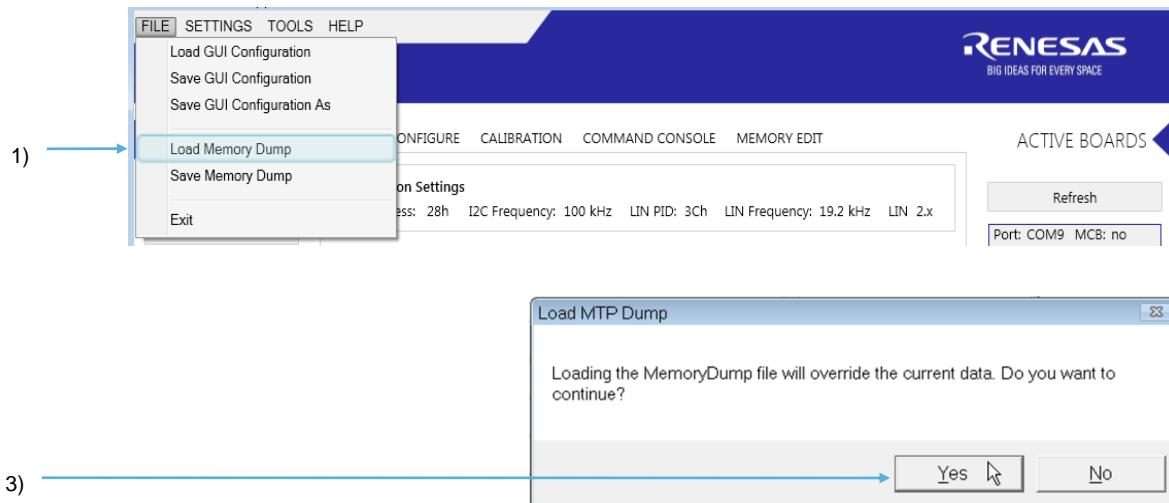

Figure 17. Load the RAM Shadow Data into GUI
1. Select FILE > Save Memory Dump to save a file containing the IC memory data (see Figure 17). A file explorer window will open.
1. Select FILE > Load Memory Dump to load a file containing the IC RAM Shadow memory data (see Figure 17).